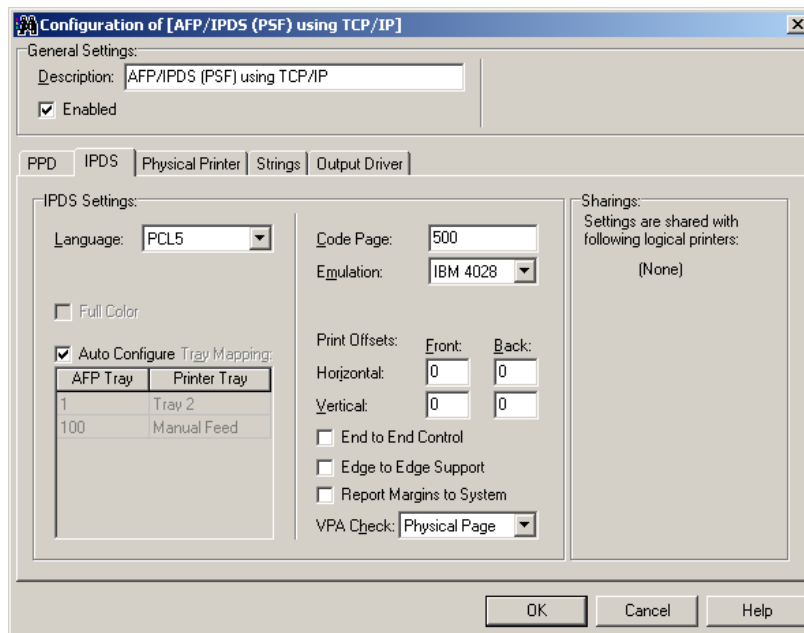

Figure 10
6. Click the **IPDS** tab, and adjust the settings to match your requirements (Figure 10).